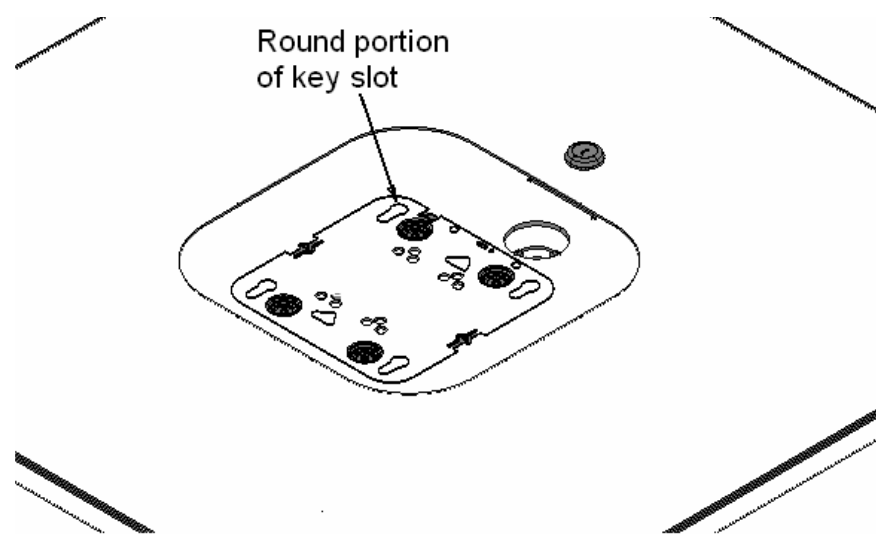

Figure 2 – Close-up showing proper orientation of the Cisco Mounting Plate
Step 3 – Turn the AP mount over so that the access point opening is facing upward. Install the mounting plate using four (4) #8-32 pan head screws. The mounting plate should be placed so that the round portions of the key slots are located closest to the enclosure lock (reference Figure 2)